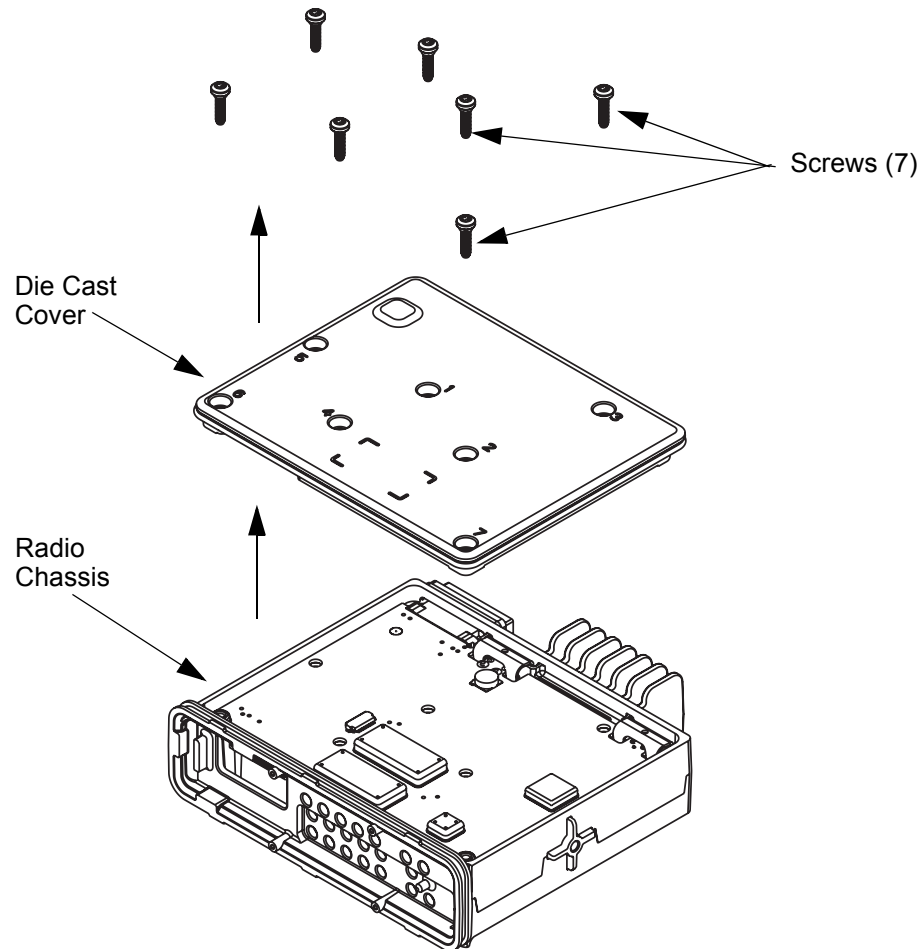

Figure 5-4 Die Cast Cover Removal
1. Remove the seven screws from the die cast cover using the T20 TORX™ driver as shown in Figure 5-4.